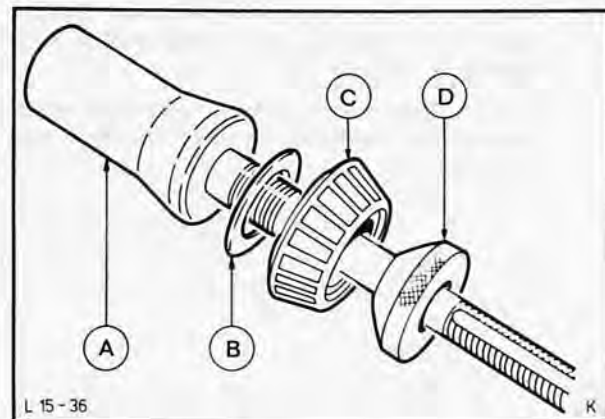

Fig. 77. Master pinion 15-020
24. Remove master pinion and detach taper roller bearing with shim, Fig. 77. Identify new shim from measurement. With a micrometer check shim corresponding to measured value (see Parts Catalogue for part numbers of shims).